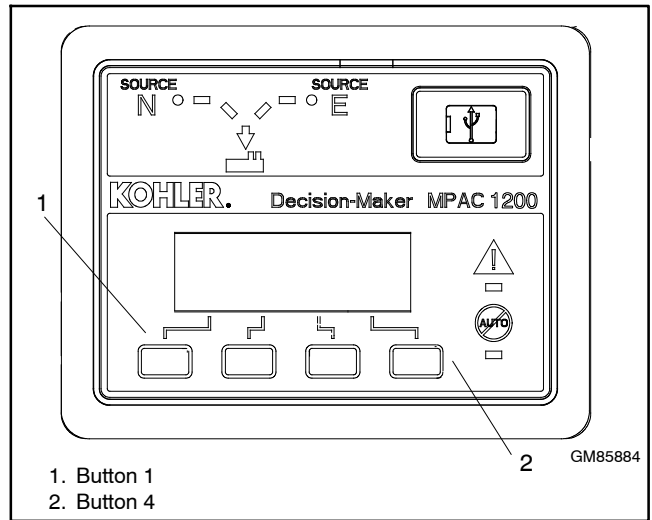

Figure 4-22 User Interface Panel
2. Press buttons 1 and 4 on the controller. See Figure 4-22.